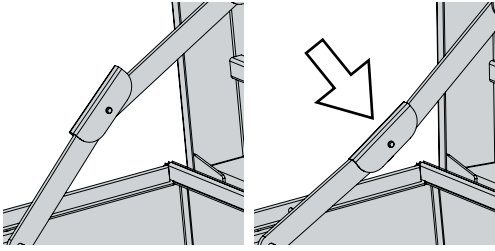

Figure 10
1. Make sure the cover support on the left side of the cover is locked so cover cannot fall (figure 10).